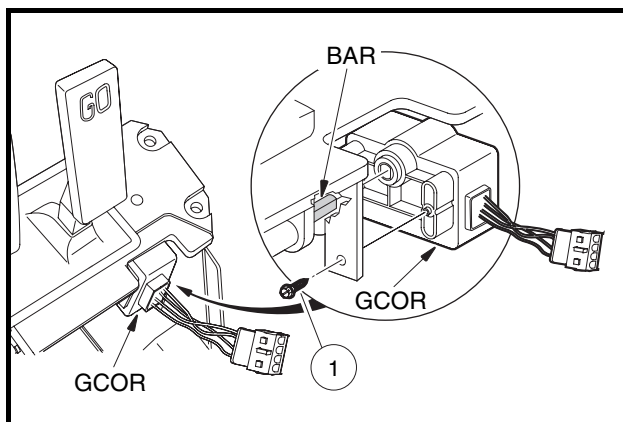

Figure 5-3 GCOR Removal
7. Loosen turnbuckle (6) until the threaded rod from the pedal group is free of the turnbuckle.
9. Remove two screws (2) on the driver side of the pedal group and two screws (1) on the passenger side of the pedal group.
12. Release the end of the accelerator cable (10) from the pedal group.
13. Remove two screws (1) to separate the GCOR from the pedal group (**Figure 5-3, Page 5-3**).
1. Place the GCOR on the pedal group and secure with two screws (1) (**Figure 5-3, Page 5-3**). Tighten the screws to 23 in-lb (2.6 N·m).